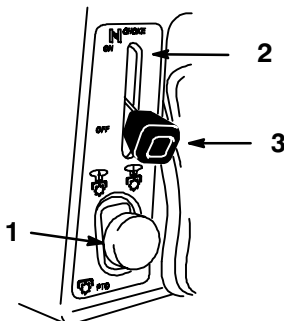

Figure 3
3. Push the PTO (power take off) to “OFF” (Fig. 3).
4. Move the choke lever to “ON” (Fig. 3).
- Push the PTO (power take off) to “OFF” (Fig. 3).